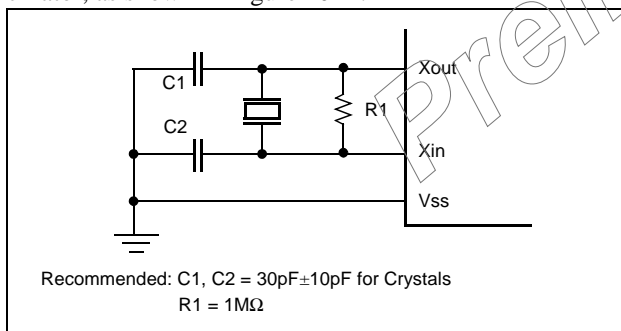

Figure 10-2 Oscillator Connections
XIN and XOUT are the input and output, respectively, an inverting amplifier which can be set for use as an on-chip oscillator, as shown in Figure 10-2 .
- Note:** When using a system clock oscillator, carry out wiring in the broken line area in Figure 10-2 to prevent any effects from wiring capacities.